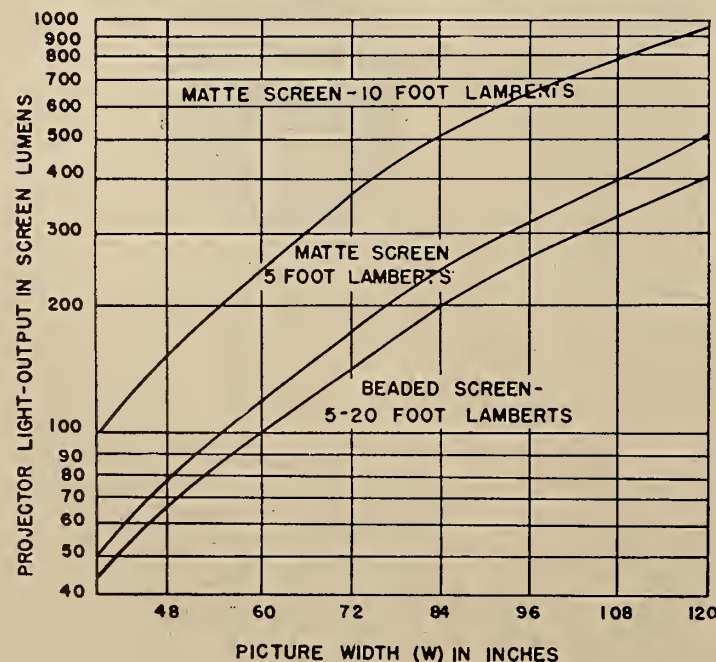

FIGURE 1
1.2 The projector illumination should be maintained to give the illumination indicated in Fig. 1 for beaded or matte screens of the size required to meet the other items of this standard.